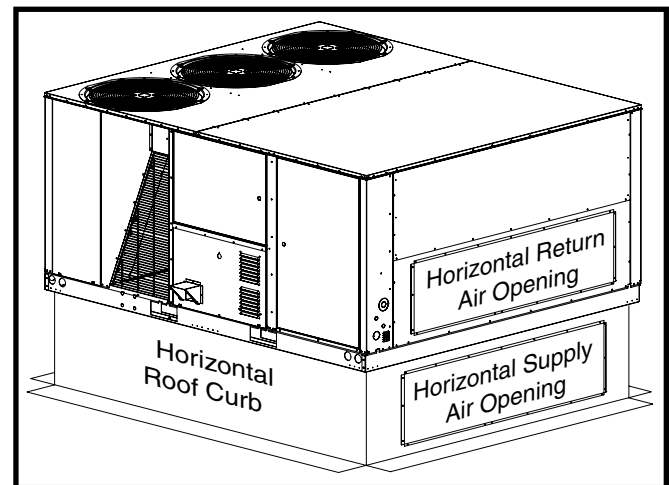

Figure 6. Horizontal Roof Curb
- The appropriate accessory roof curb (Figure 6) must be installed prior to unit installation. The roof curb must be square and level to ensure proper condensate drainage. **Please follow all instructions provided with the kit.**